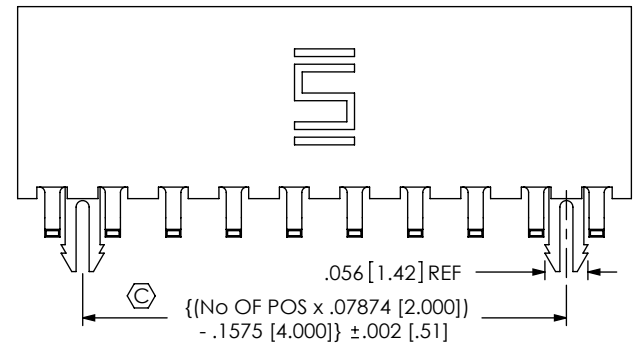

FIG 4
-LC: LOCKING CLIP (5 POS MIN) (USE LC-07-TM, SEE FIG 4, SHT 2 & NOTE 8)